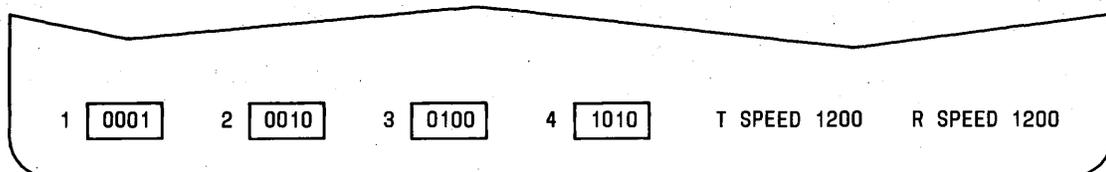

Fig. 28—VT100 Recommended Options
- 18 Depress the 8 key continuously until a receive (R) speed of 1200 is indicated. The recommended options are shown in Fig. 28.